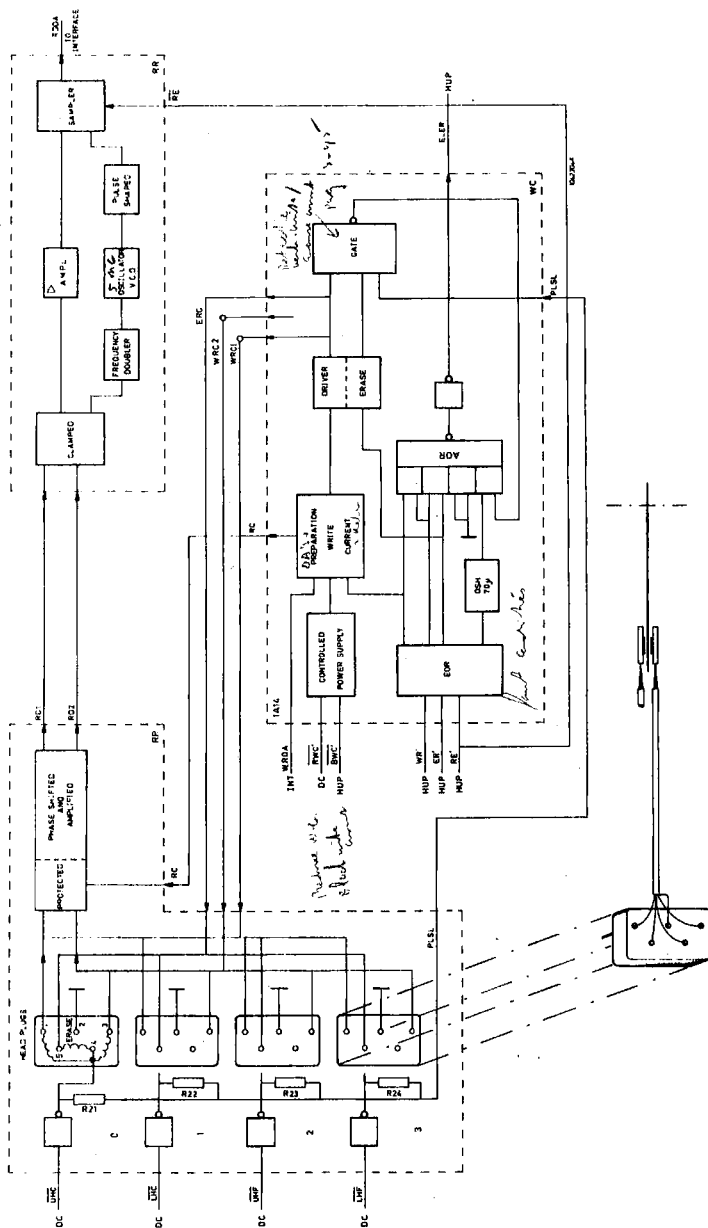

Figure 3-17 READ/WRITE
6.10 WRITE OPERATION (figures 3-17 and 3-18)
6.11 READ OPERATION (Figures 3-17 and 3-18)